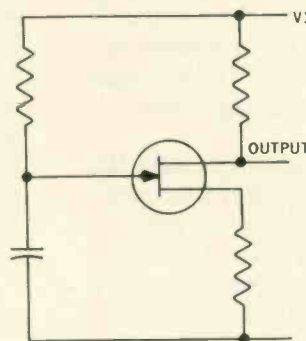

Fig. 2
5. The circuit in Fig. 2 is an FET amplifier. (True/False)